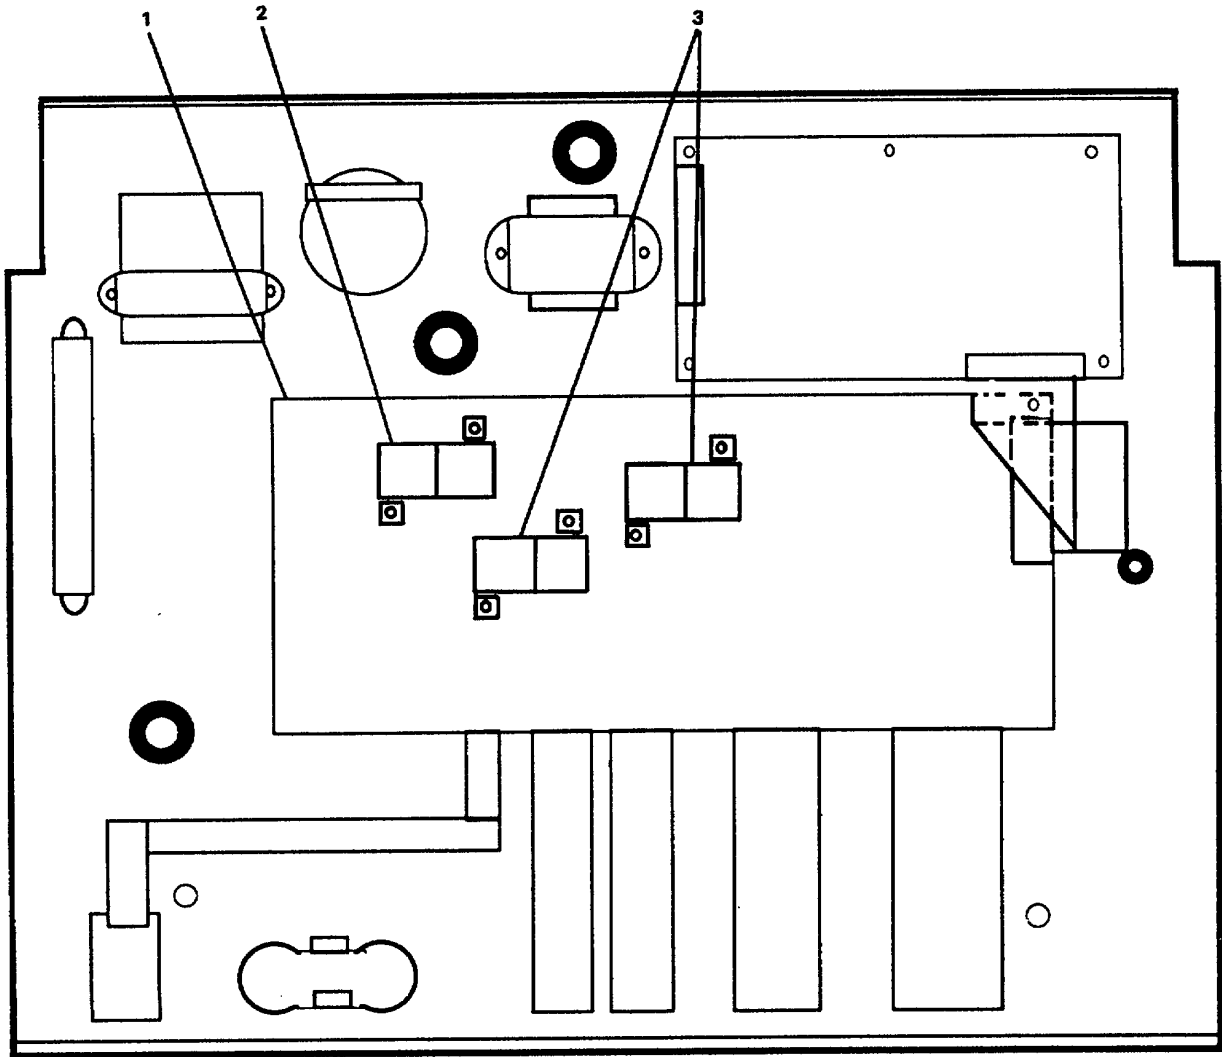

FIGURE 3-60. *Replace/Repair Interface Printed Circuit Board.*
- a. Install electronic module assembly (1).
**3-58. Replace/Repair Interface Printed Circuit Board. (Figure 3-60)**
**3-60. Replace/Repair Interface Printed Circuit Board. (Figure 3-60)****This task covers:****a. Disassembly****b. Repair****c. Assembly.****INITIAL SETUP:**Tools